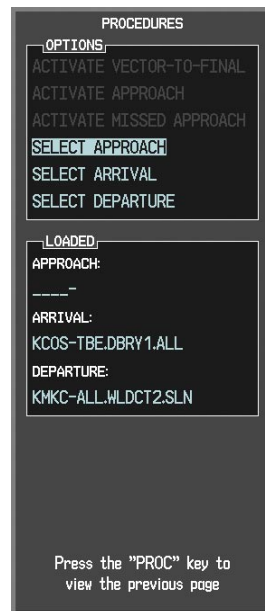

Figure 5-121 Procedures Window
b) 'SELECT APPROACH' should be highlighted as shown in Figure 5-121.